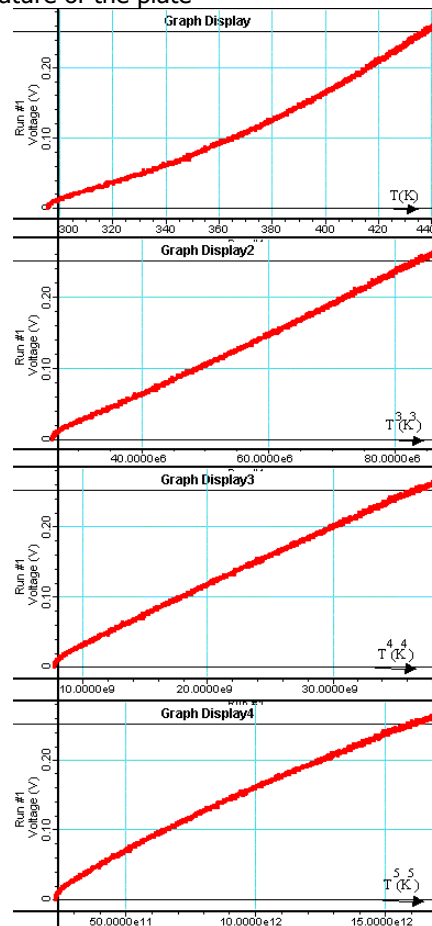

Figure 1
T^4 -graph is the straightest line among the four (see Figure1), so this is the best P-T relationship. (T^3 -graph "curves" upwards and T^5 -graph "curves" downwards.)
- Do not start measurements directly after switching on the hot plate. Heat capacity of the system makes that at the very beginning, temperatures in the system are not equally distributed. That's why we start measurements from 30°C on. (In Figure1 you can see this "switching-on"-effect in the graph at the leftside of the vertical Voltage-axis.)